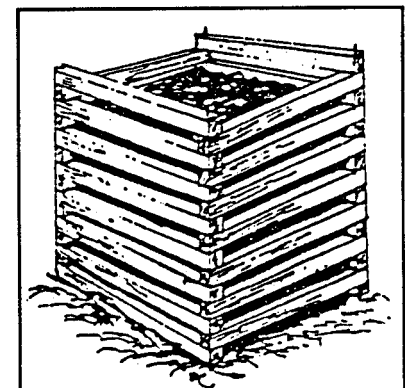

Figure 5. Lehigh-Keston bin.
**The Lehigh-Keston compost bin** (Figure 5), designed by J.I. Rodale has proven effective and popular. The bin is adjustable in size, portable and provides for proper ventilation and protection. It is constructed by